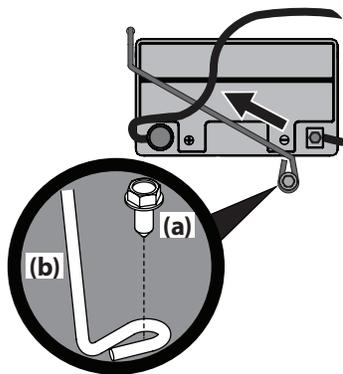

Figure 20
NOTE: Wiring harness should lay on top of battery hold down rod, otherwise damage to the wiring harness may result. See Figure 20 on page 10.
3. Remove the hex washer screw (a) securing the battery hold-down bracket (b) to the frame. Then flip the battery hold-down bracket (b) up to free the battery. See Figure 20.